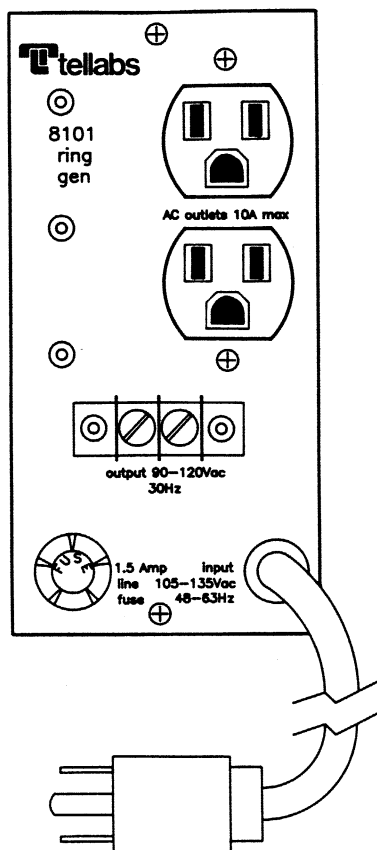

figure 2. Rear view of 8101
2.03 Output connections to the 8101 are made to two barrier-type screw terminals on the rear of the unit (see figure 2). Use 20AWG or heavier wire to make these connections. Because the 8101's output is floating, polarity need not be considered: Either ringer lead can be connected to either screw terminal on the unit. After the output connections are made, plug the unit's line cord into a grounded (three-prong) nominal 117Vac, 60Hz wall-type outlet.